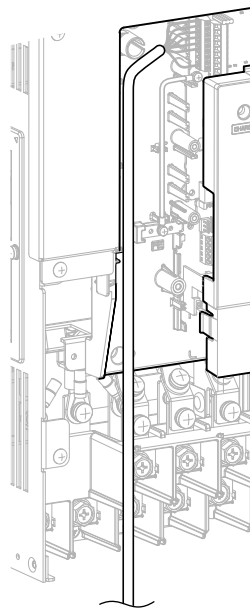

Figure 7.7
1. Route the communication wiring inside the enclosure as shown in Figure 7.7.